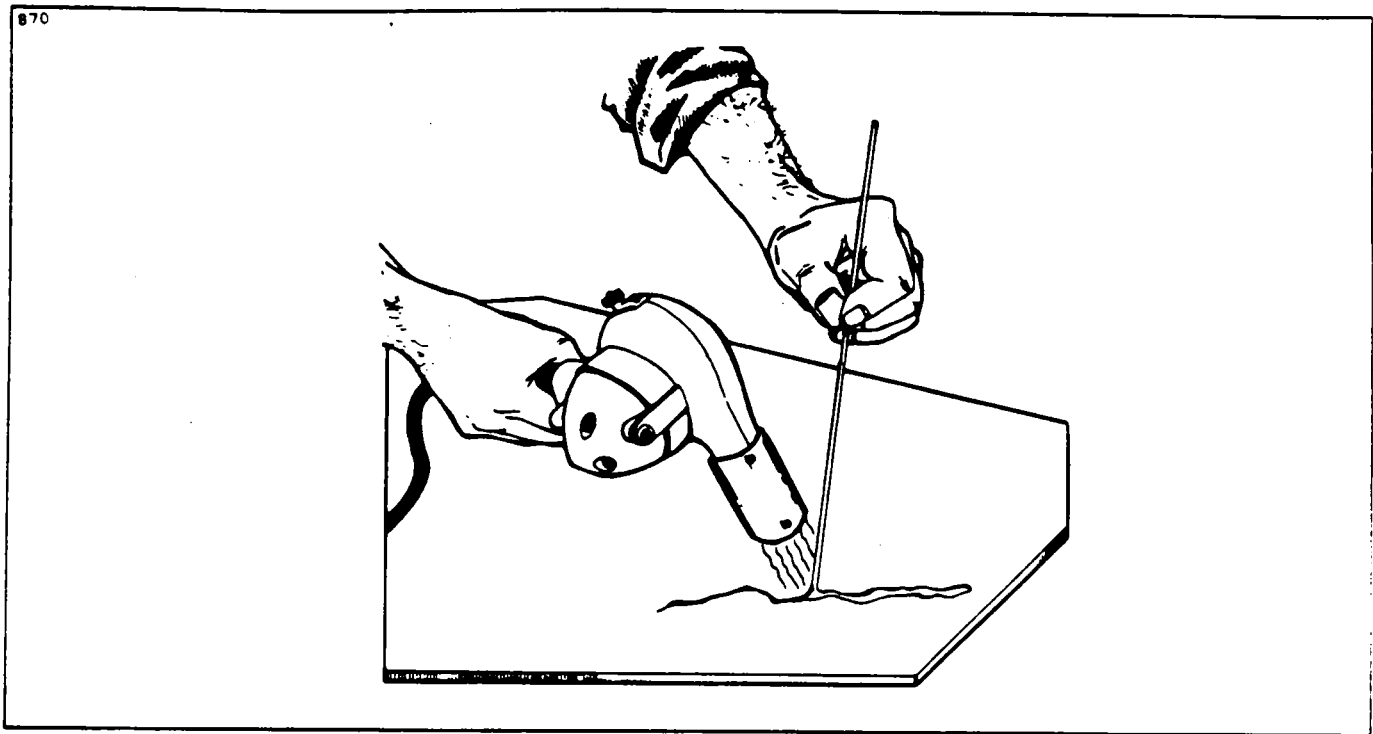

Figure 51-5. Welding Repair Method
J. This welding method requires a hot air gun and ABS rods. To weld, the gun should be held to direct the flow of hot air into the fusion (repair) zone, heating the damaged area and rod simultaneously. The gun should be moved continuously in a fanning motion to prevent discoloration of the material. Pressure must be maintained on the rod to insure good adhesion. (Refer to Figure 51-5.)